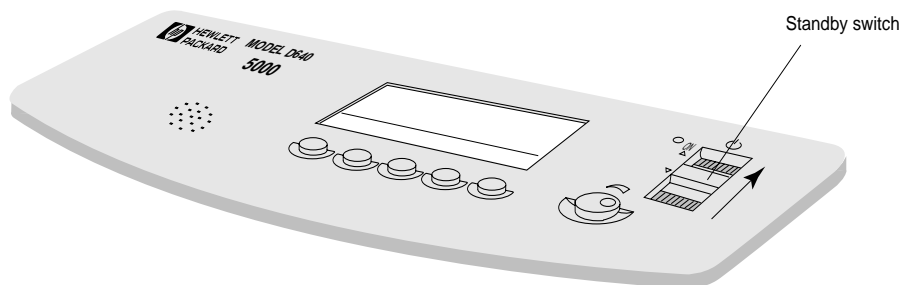

Figure 2-42 Turning On the Standby Switch
5. Turn on the standby switch, as shown in Figure 2-42, by holding the switch in the up position momentarily.